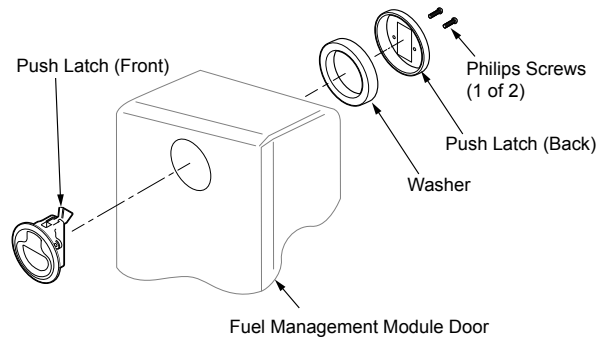

Figure 2
4. Pull down the fuel management module door, exposing the rear of the push latch. Using a #1 Philips screwdriver, remove the two screws and discard. Remove the back of the push latch and discard. Remove the washer and set aside for reinstallation. Remove the front of the push latch and discard (see *Figure 2*).